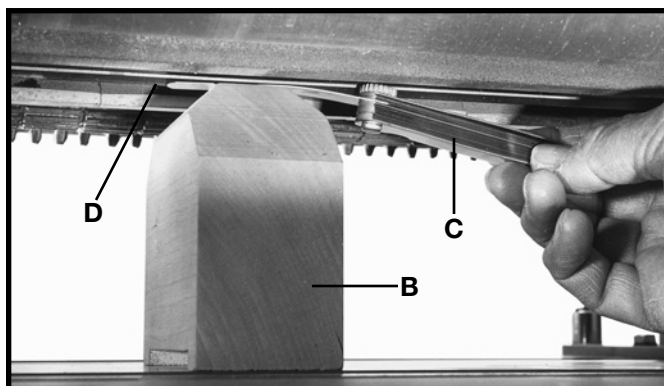

Fig. 38
3. Place gage block (B) Fig. 38, on the table surface and directly under the cutterhead as shown. Using a .040" feeler gage (C) Fig. 38, placed on top of the gage block, raise the table until cutterhead knife (D) touches the feeler gage when the knife is at its lowest point.